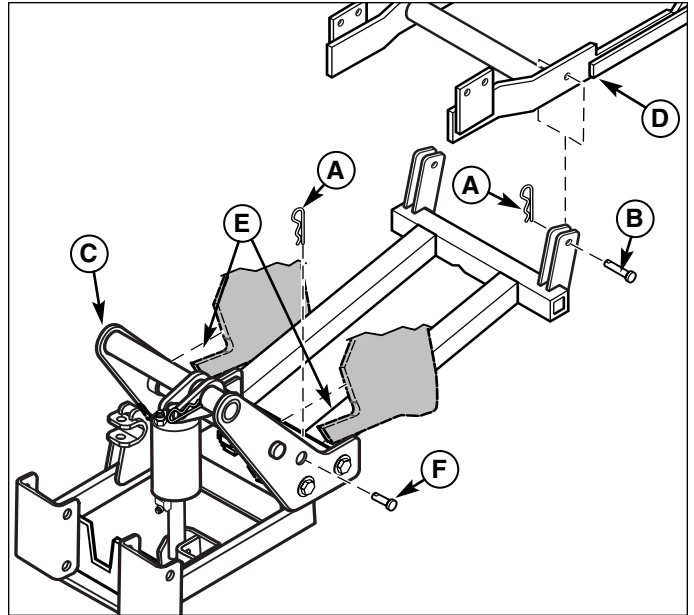

Figure 14. Hitch to Tractor Installation
1. Lift assembly (C, Figure 14) and slide onto slots on tractor (D). Lift back of assembly to frame and install clevis pins (B), clevis pins (F) and hair pins (A).